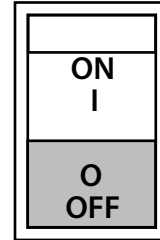

Figure 29. Main Circuit Breaker (OFF)
- Place **main** circuit breaker (Figure 29) in the **OFF** position.